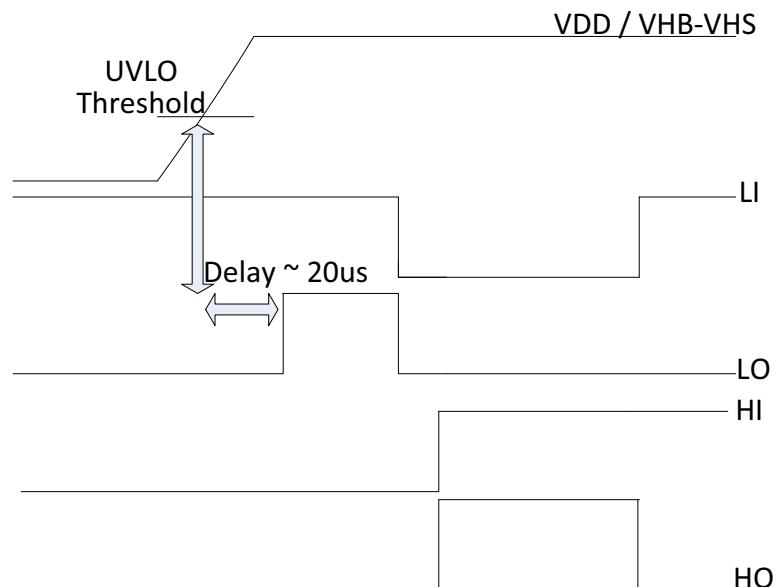

Figure 4. Output Logic at UVLO Crossing
At power-up, the HS Pin is at ground, the bootstrap capacitor will charge up to VDD through the internal diode. The designer must factor in at least 3 time constants (RC) plus the internal UVLO delays (20  $\mu$ s typical) before the output can react to a logic input (Refer to Figure 4). If for any reason the voltage across the bootstrap capacitor drops below UVLO, it is required to charge the capacitor back up to VDD while accounting for 3 time constants and the 20  $\mu$ s UVLO delay before the High-Side channel can react to an HI input.
At power up, when the supply voltage ramps up to set VDD and crosses the UVLO thresholds, **users must take into account a 20  $\mu$ s delay** before the output drivers can react to a logic input. The 20  $\mu$ s delay applies to both High-side and Low-side drivers. Figure 4 only shows the delay for the low-side channel.
When VDD & VHB cross their respective UVLO thresholds if HI and LI were already set the NCP81080 will keep HO pulled Low until it detects a rising edge on HI, however LO will follow LI allowing the Low-Side FET to turn on. (Refer to Figure 4)